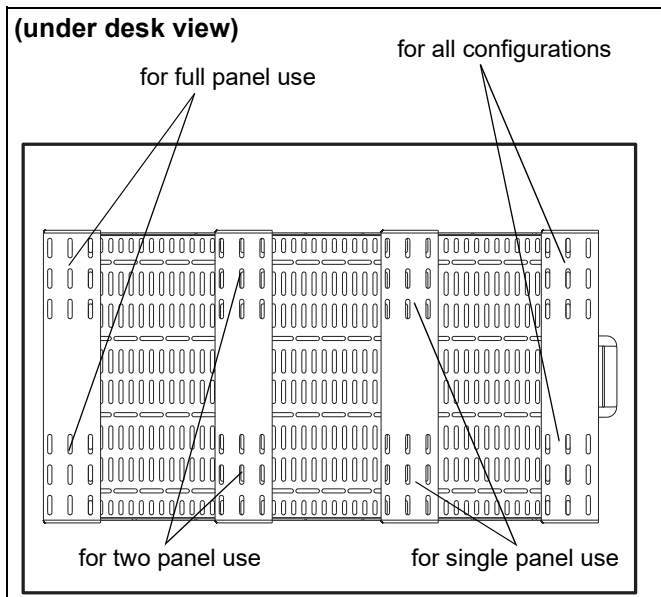

Figure 2
3. Use template drawing (H) to mark mounting holes on bottom of desk at desired mounting location. (See Figure 2)